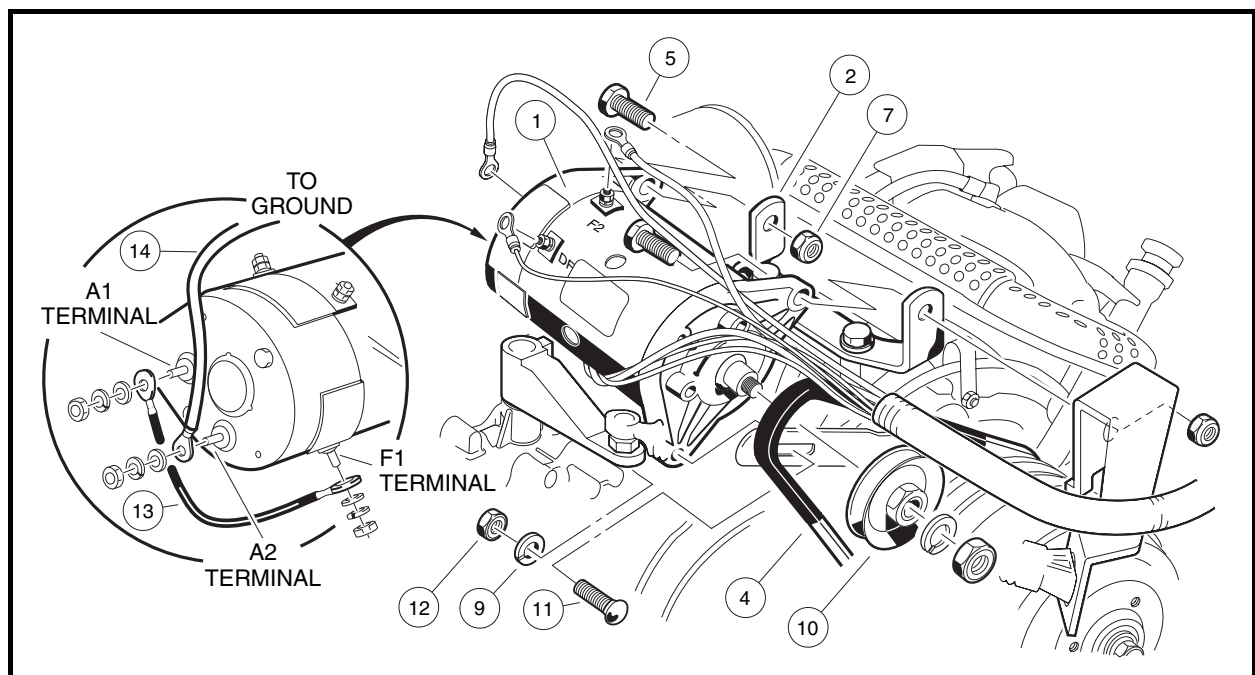

Figure 12-1 Starter/Generator Mounting
4. Mark and disconnect the wires from the starter/generator (1). Loosen the two pivot nuts (7) and bolts (5) (Figure 12-1, Page 12-1).
5. Remove the mounting/adjustment nut (12), washer (9) and bolt (11). Lower the starter/generator and remove the belt (4) from the pulley (10).
6. Support the starter/generator so that when the pivot bolts are removed the starter/generator will not fall to the ground. Remove the two pivot nuts (7) and bolts (5) from the mounting bracket.